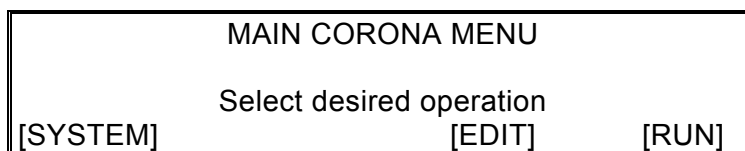

Figure 2-14: The Main Corona Menu Screen
- c) After several seconds, the instrument will automatically advance to the MAIN MENU (Figure 2-14).